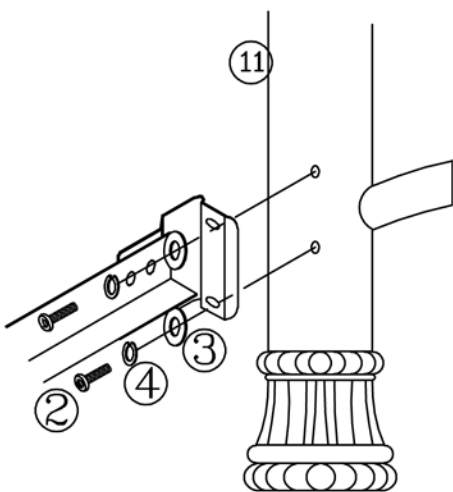

FIGURE 3
- Position footboard panel (11) and align holes in the post with holes in the frame bracket. (See figure 3)
- Place a lock washer (4) and a flat washer (3) over on each screw (2). Insert through bracket and into post. Hand, DO NOT TIGHTEN screws all the way.
- Tighten all screws securely using the Allen wrench (6).